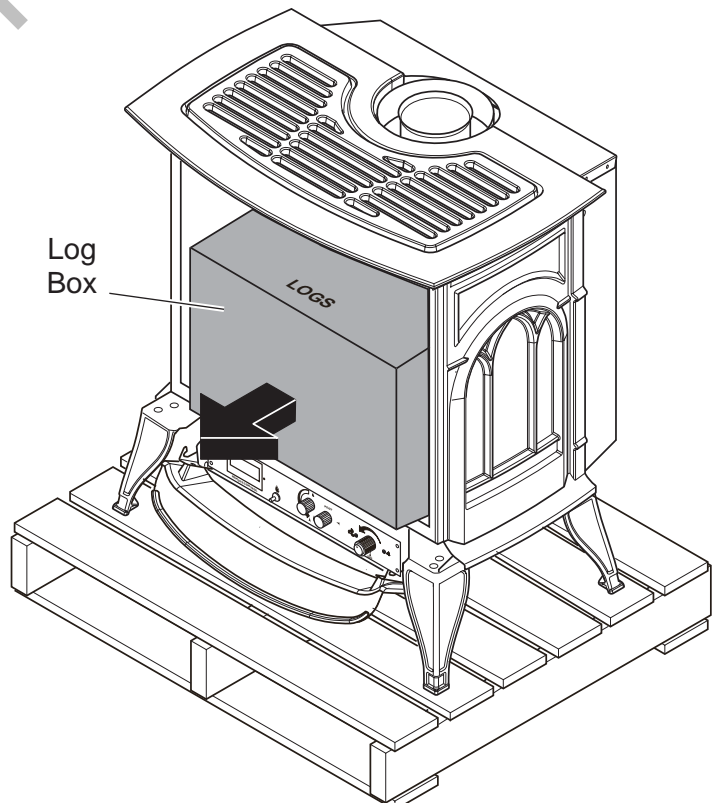

Figure 8 - Removing Log Box
3. Lift up on ash lip and pivot down to open control door. *See Figure 8.*
4. Lift up on front. Pivot bottom of front out. Remove front. *See Figure 8.*